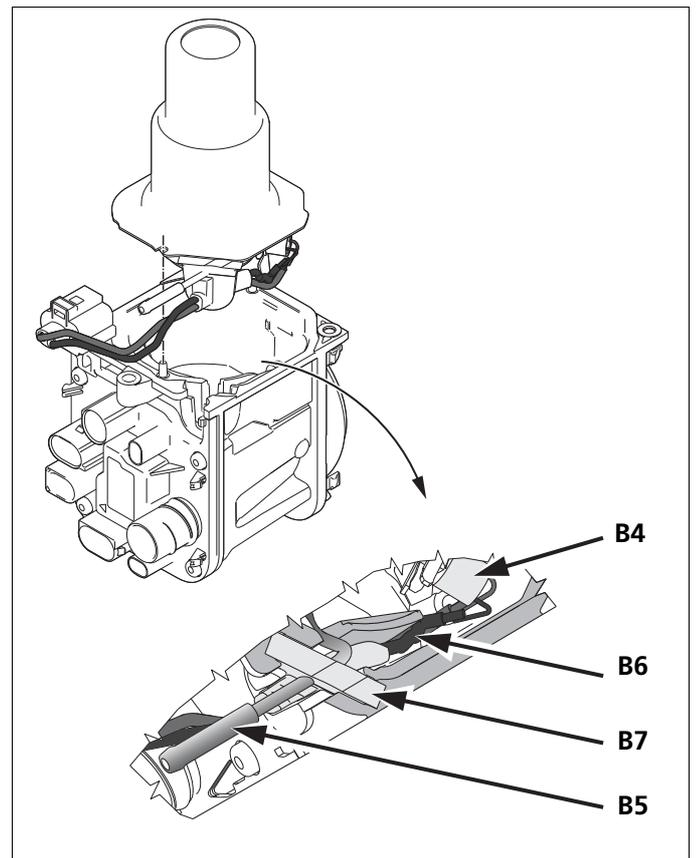

Fig. 22 Detailed diagram of cable routing glow plug
1. Pre-position burner unit with bush (B7) in the combustion air fan unit (G1). On assembly, ensure that the glow plug cable (B6) and the bush (B7) are inserted in the guide provided and the groove of the combustion air blower unit (G1) (see Fig. 22). Push the bush (B7) into the groove provided until it completely fills the installation space.
On assembly, only a new glow plug must be used. Uninsulated parts of the glow plug cable must not touch each other and must not come into contact with metal parts of the burner unit or of the combustion air housing (risk of short-circuiting). On assembly, the glow plug must not be twisted or tilted and must be pushed as far as it will go into the guide (risk of breakage). On assembly of the burner unit, the cable must be routed in such a way that it lies in the groove provided. See also section 9.2.2 and Fig. 22.